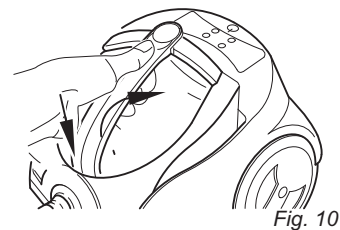

Fig. 10
5. Place the water tank inside again. First insert it by putting the rear part into the holder body. Then press it forwards (Fig. 10). The locking catch clicks audibly into place.